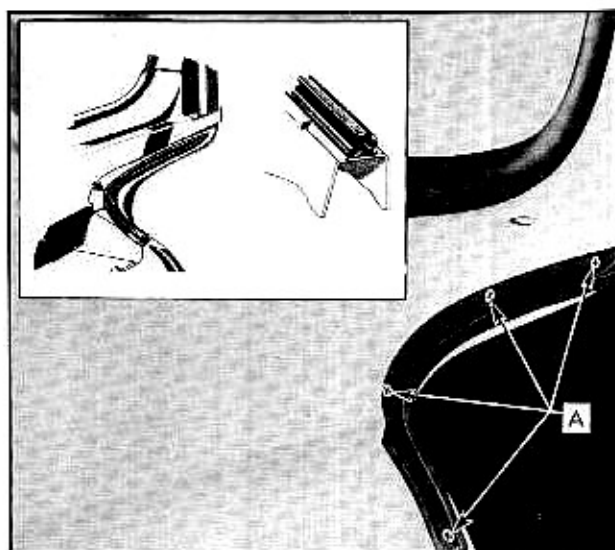

Fig. 3-51 Cowl Side to Door Weatherstrip Installation
1. Remove four screws, indicated in Fig. 3-51; break seal between weatherstrip and cowl and remove weatherstrip.
2. To install, clean original sealer from cowl and apply a ribbon of medium-bodied sealer as indicated in insert, Figure 3-51. Install screws and clean off excessive sealer.
(50) Deck Lid Weatherstrip Removal and Installation